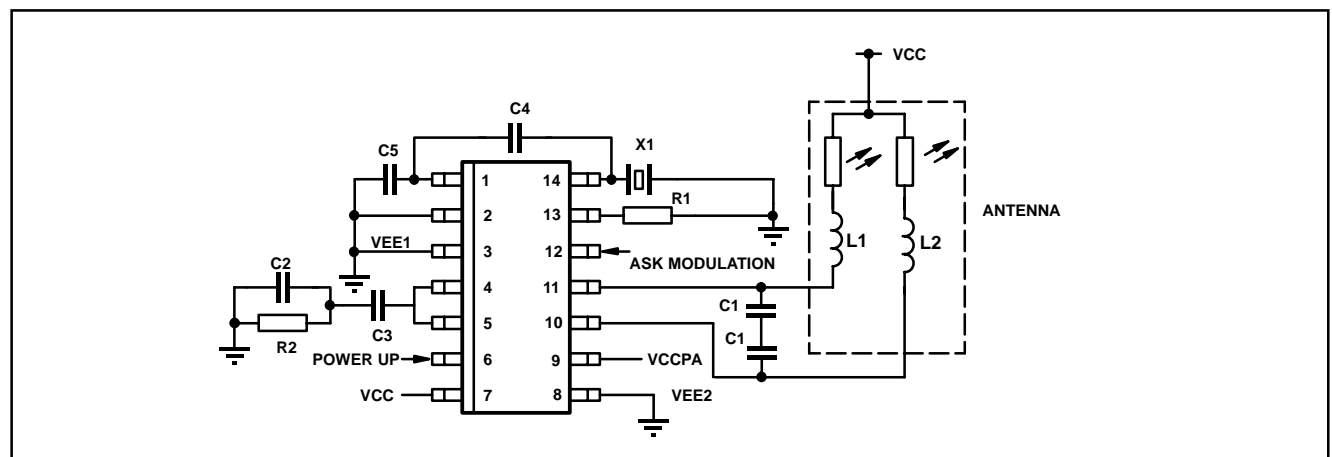

Fig.6 Application diagram
3. Regulatory issues demand that transmission does not take place until the PLL has acquired lock and the VCO is operating at its final output frequency. This requirement demands that pin TXEN is set high at least Tx_e ms prior to the transmission of any data. This value is dependent on the PLL loop bandwidth and hence on the value of the external loop filter component values. The specification value above is for the loop filter components shown in the applications diagram (Fig. 6)
A single transistor Collpits crystal oscillator provides a reference clock for the PLL. The oscillator is configured for parallel resonant operation in the fundamental mode (typical operating frequency of 3–7MHz). The crystal is connected between pins XTAL2 and V_{EE1} with external components as shown in Fig.6.
The input signal at pin DATA produces amplitude shift key (ASK) modulation of the VCO output. This is achieved by on-off keying of the bias current in the output power amplifier stage. The output of the PA is a balanced output (pin OUT and OUTB) and is current source driven (open collector outputs). The outputs of which should be D.C. referenced to a positive supply voltage (anticipated to be V_{CC} in most applications). The current source outputs can drive a PCB antenna directly (Fig. 6) or if a higher output power is required on limited supply headroom via a simple impedance transforming network.
The IC is capable of directly interfacing to a PCB loop antenna as shown in the applications diagram (Fig. 6).